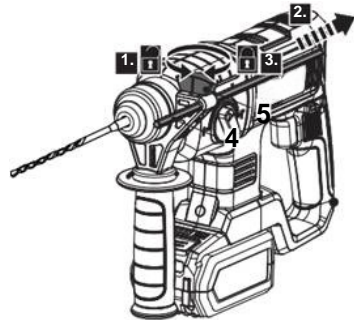

Fig. 13
1. Turn the wing nut (5) anti-clockwise to loosen it (Fig. 13, step 1).
2. Firstly align the tip of the depth stop (4) with the drill tip, then pull the depth stop back by the required drilling depth (Fig. 13, step 2).
3. Turn the wing nut (5) clockwise to fix the depth stop (4) in position (Fig. 13, step 3).